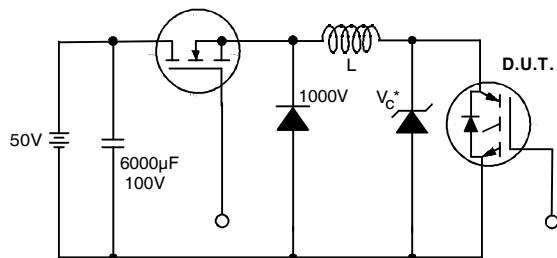

図19 19.
- ②  $V_{CC}=80\% (V_{CES})$ ,  $V_{GE}=20V$ ,  $L=10\mu H$ ,  $R_G = 23\Omega$  (figure 19)
- ③ Pulse width  $\leq 80\mu s$ ; duty factor  $\leq 0.1\%$ .
- ④ Pulse width  $5.0\mu s$ , single shot.